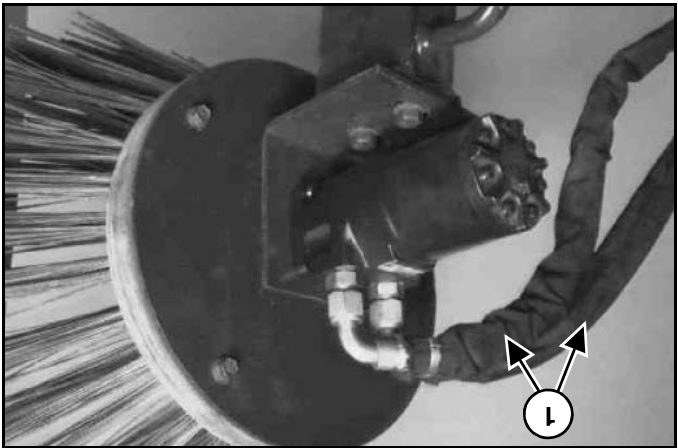

Figure 138
Remove the hydraulic hoses (item 1) [Figure 138].